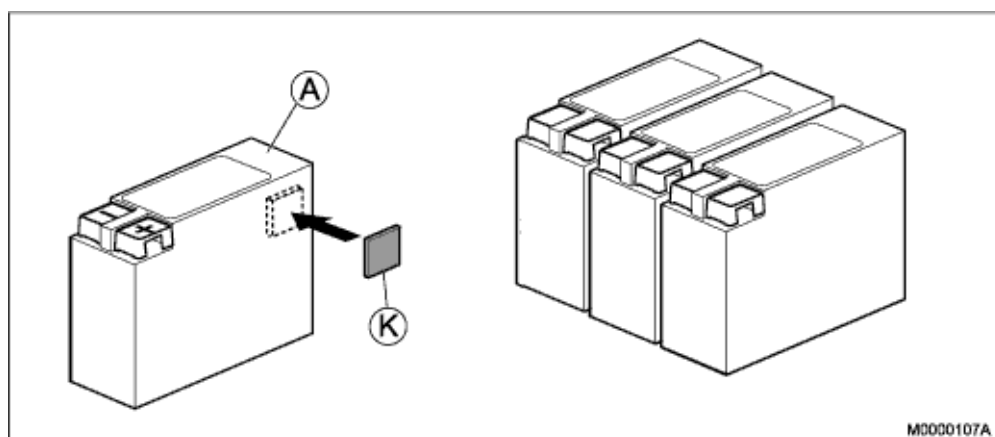

Figure 14: Battery Block Spacer
1. Mount the spacers (K) between the battery blocks (A), see Figure 14: Battery Block Spacer on page 21.